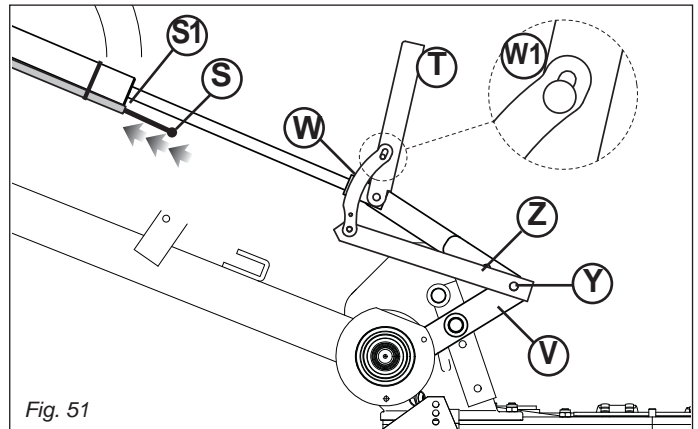

Fig. 51
- 1) Move the lever mechanisms (V and Z, Fig. 51) to position (Y).
- 2) Lift the bracket (T) as shown in Figure 51, and lock it with the rod (W) in the lower position of the slot (ref. W1, Fig. 51).
- 3) To avoid unpleasant problems during movement of the cutter bar, detach the steel cable (S) from the rod (W) and retrieve it up to position (S1) .